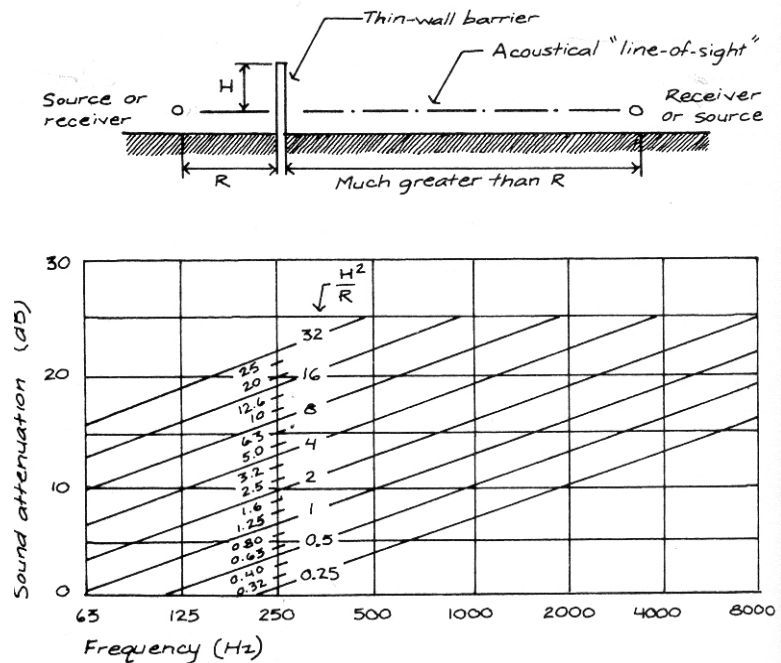

Figure D3.3.1 Thin-Wall Barrier Design Nomograph. Reprinted, by permission, from Egan, *Architectural Acoustics*, 256.
2. Use the graph [Figure D3.3.1] to calculate the attenuation provided by your barrier.